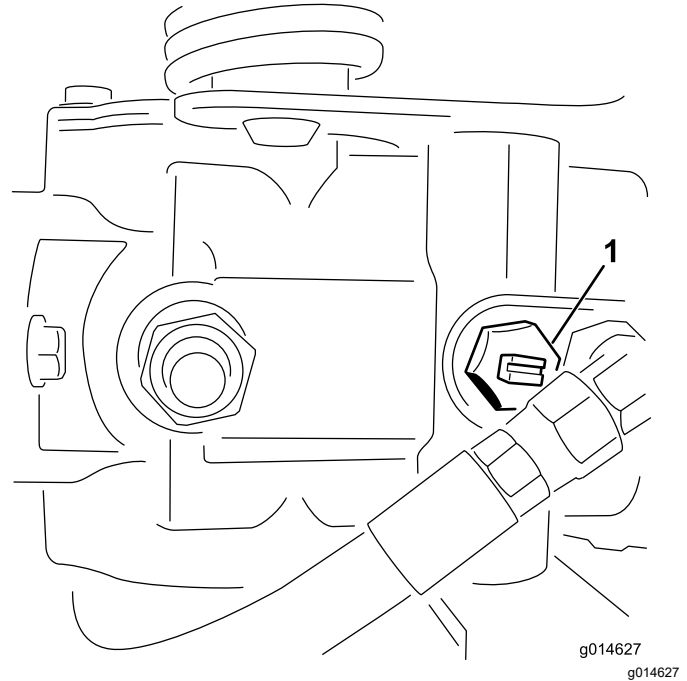

Figure 25
1. Locate the bypass valve on the pump and rotate it so that the slot is vertical (Figure 25).
2. Before starting the engine, close the bypass valve by rotating it so that the slot is horizontal (Figure 25).